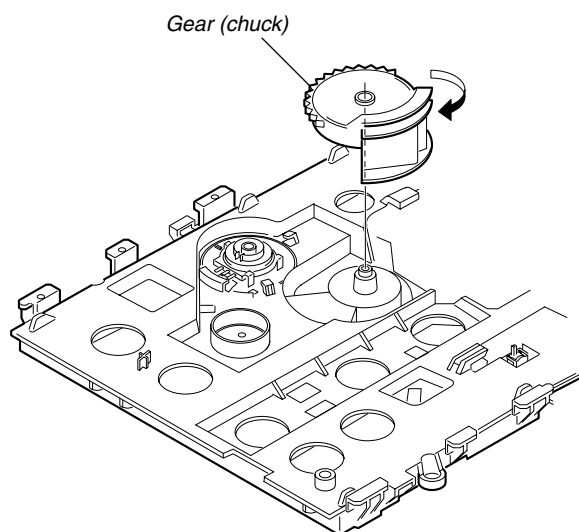

Fig. 5.
- 1) Mount the gear (chuck). (See Fig. 5)
- 2) Rotate the gear (chuck) in the direction of the arrow. (down position) (See Fig. 5)